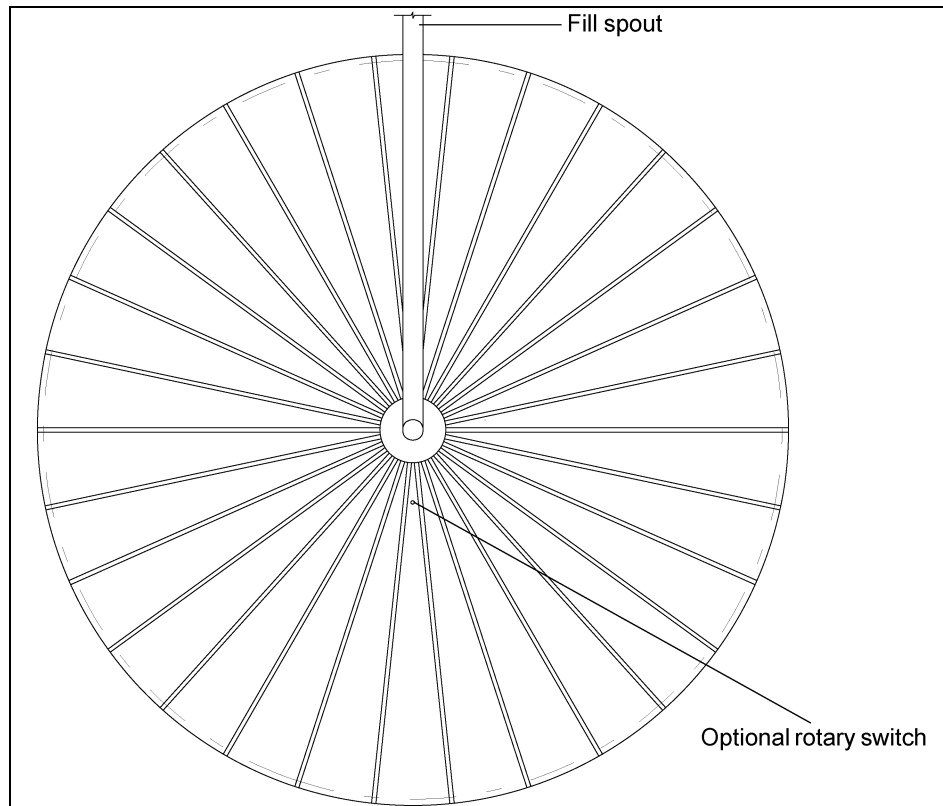

Figure 9J Overhead View of Optional Rotary Switch Locations
Drill 2" diameter holes through roof panels at locations as shown in Figure 9J. Use a mounting plate as a pattern and drill four (4) 3/8" holes through roof panels at each switch location so the plate can be bolted to the roof.
Drill 2" diameter holes through roof panels at locations as shown in Figure 9J on Page 60. Use a mounting plate as a pattern and drill four (4) 3/8" holes through roof panels at each switch location so the plate can be bolted to the roof.